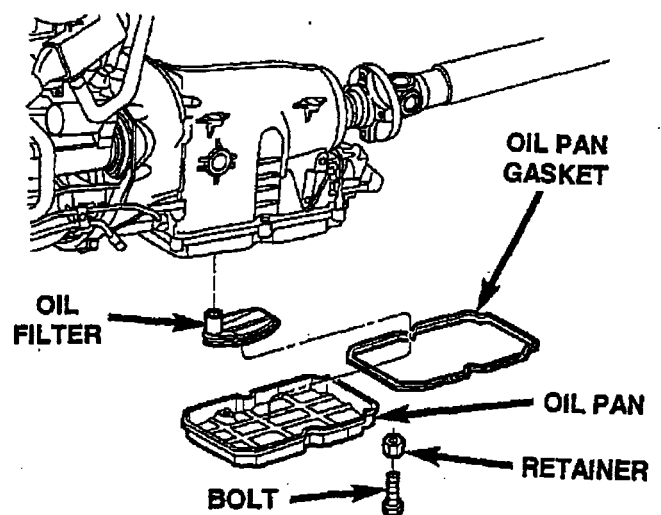

Figure 16
9. Place a drain pan under the transmission pan and carefully remove the transmission pan retaining bolts, (Figure 16).
11. Remove and discard the old transmission oil filter (Figure 16).
22. Install a new transmission oil filter (Figure 16).